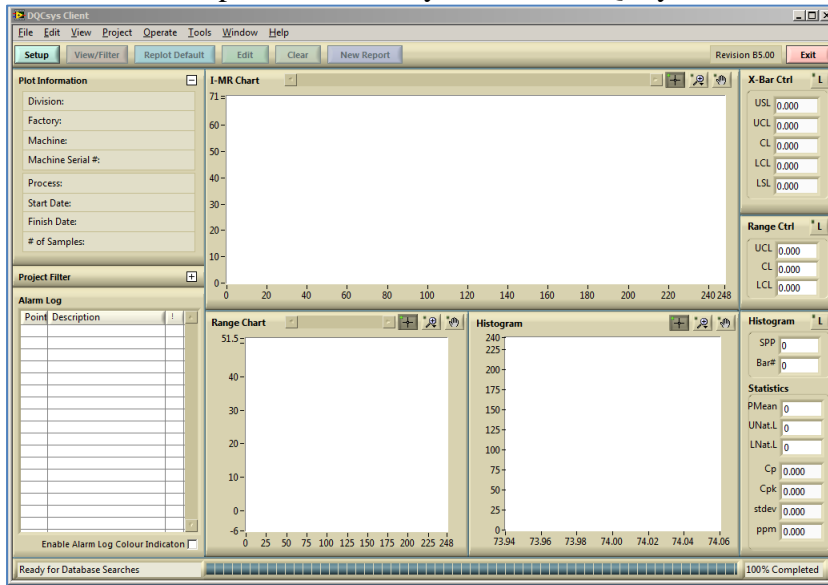
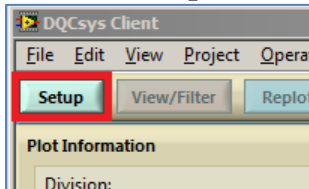

Figure 1-1: The DQCsyst Client Window
Figure 1.1-1: The Setup Button
When DQCsyst Client is launched, the user must first configure searches to obtain data. This data can then be plotted and analysed on the DQCsyst **Client** window. (Figure 1-1)
1. Click the **Setup** button (Figure 1.1-1) on the DQCsyst Client window (Figure 1-1).